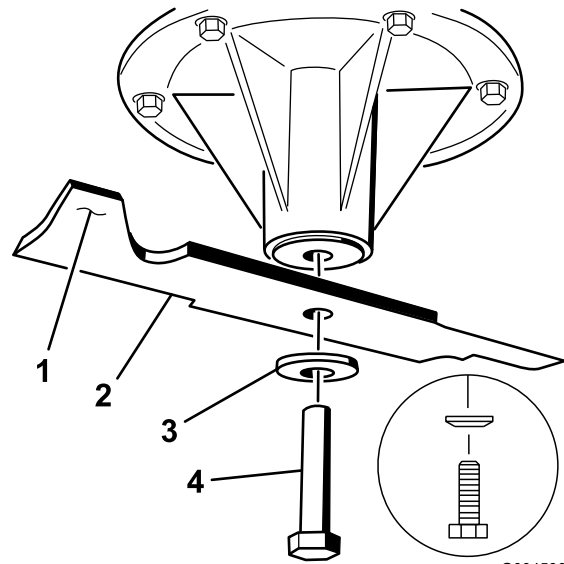

Figure 74
2. Remove the blade bolt, the curved washer, and the blade from the spindle shaft (**Figure 74**).
3. If the blade is not balanced, file some metal off the end of the sail area only (Figure 74).